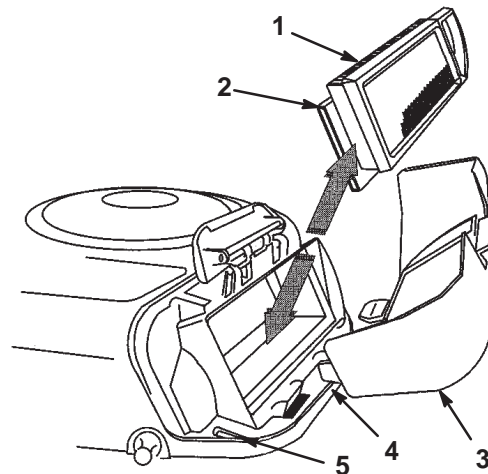

Figure 17
7. Carefully slide the paper element and foam element from the blower housing (Fig. 17).
2. Align the tabs on the air cleaner cover with the slots of the blower housing (Fig. 17). Hook the handle onto the cover and press down on the handle to lock the cover in place.